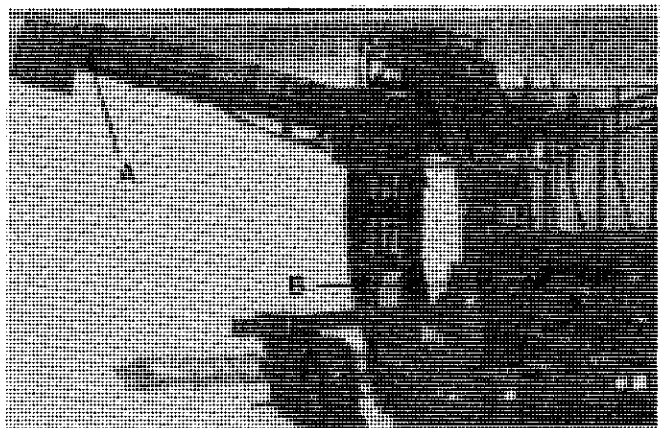

FIGURE 12 - BASIC CONTROLS
Beets are diverted to the tank or truck by a hydraulic motor (A). The tank is unloaded by use of hydraulic motor (B) (see figure 12) on the tank unloading chain.